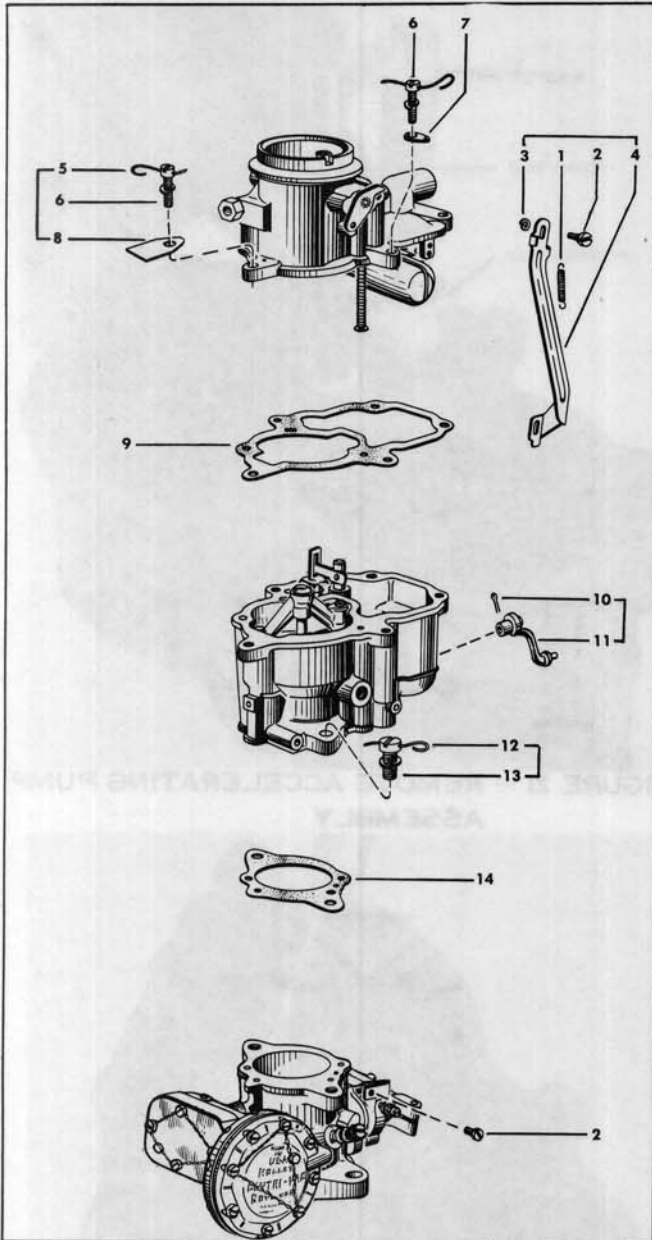

FIGURE 17 —
f. Disassembly - Three Major Sub-assemblies - Figure 17.
(1) Remove the choke kicker spring (1) from the tab on the choke kicker strap and the spring clip attached to the air horn. Remove the two studs (2) and the lockwasher (3) which fasten the choke kicker strap to the carburetor. Remove the choke kicker strap (4).
(2) Cut and remove the safety wire (5) and remove the five air horn to main body screws and lockwashers (6), spring clip (7), and identification tag (8). Lift the air horn assembly off the main body. Do not allow the float to catch on the walls of the float chamber in the main body. It may be necessary to tap the air horn casting lightly a few times with a fiber mallet to jar it loose. Discard the air horn to main body gasket (9).
(3) Remove the pump link cotter pin (10) and the pump link (11). Discard the pump link (11). Cut and remove the safety wire (12) and remove the two main body to throttle body screws and lockwashers (13). Separate the main body assembly from the throttle body and governor assembly. It may be necessary to tap the main body casting lightly a few times with a fiber mallet to loosen it. Discard the main body to throttle body gasket (14).